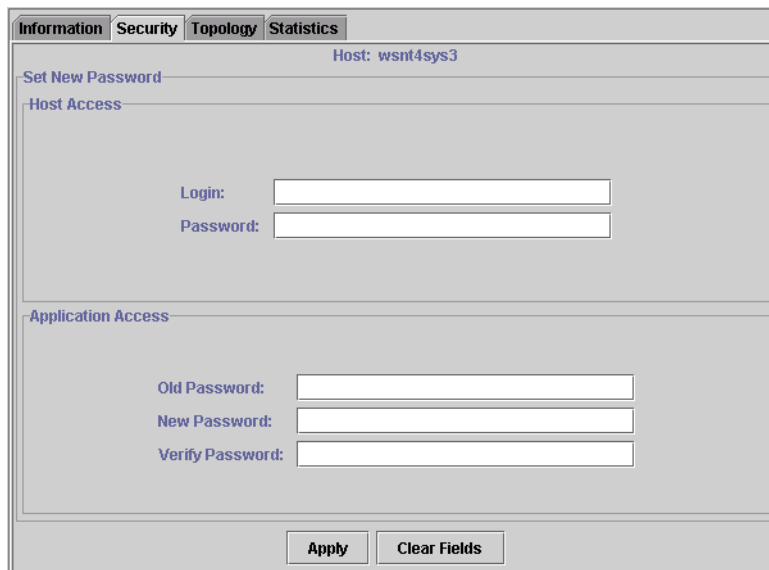

Figure 6-5. Security Tabbed Page
2. Click the **Security** tab. The **Security** tabbed page displays (see figure 6-5). The host name displays at the top of the tabbed page.